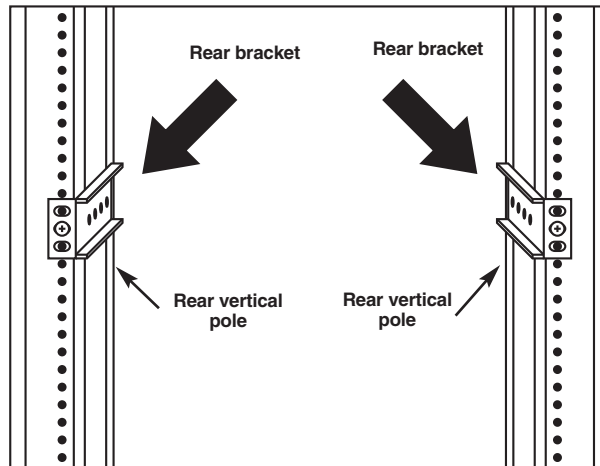

Figure 3-1. Attaching the rear brackets to the cabinet's rear vertical poles.
1. Choose a proper position in the cabinet for the rack drawer. Using 10-32 or 12-24 hardware (not included), mount the rear brackets (from the Rear Bracket Extension Kit [RMB01–RMB05], included with your ServTray Kit) and lightly fasten them onto the rear vertical poles. (See Figure 3-1.) Both rear brackets will be removed later.